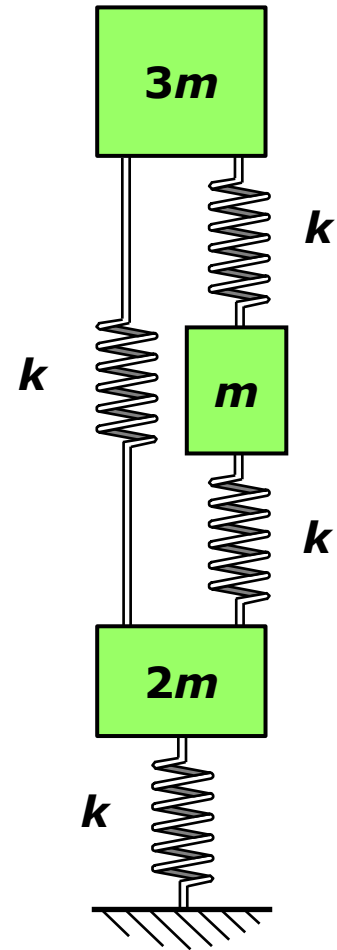

Figure Q.5
5. Use Rayleigh's Method, with at least two estimates for the mode shape, to estimate the lowest natural frequency of the system shown in Figure Q.5. [10]